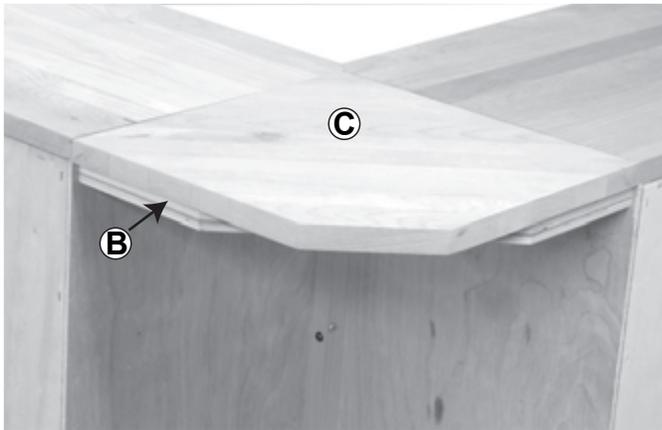
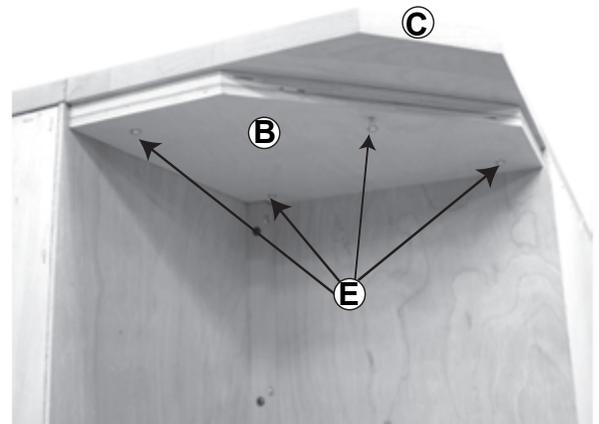

Fig. 4
Fig. 4a
4. Position the Top (C) on the Upper Corner Brace (B). See Figure 4. Attach with four #8x1-1/4" Pan Head Screws (E). See Figure 4a.